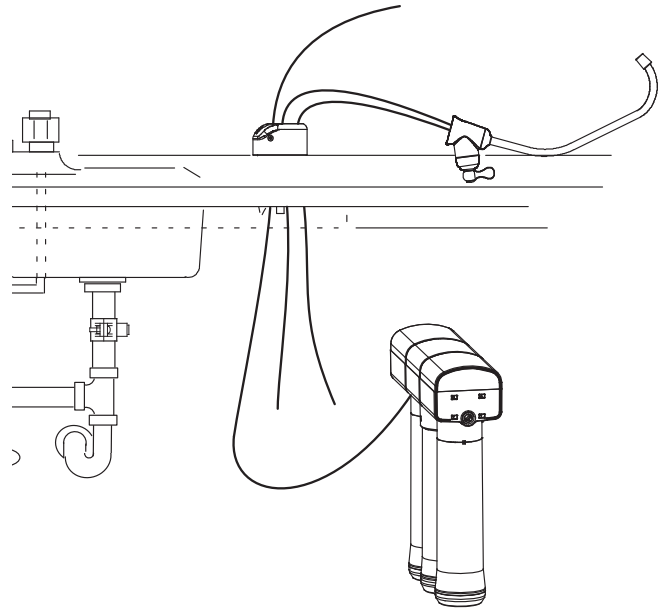

FIG. 15
4. Locate the faucet body. (The black and blue tubes are already connected to the faucet.) Insert these tubes into the sink hole until approximately one foot of tube length and the faucet body are left above the counter surface. Do not kink the tubes in the process. See Fig. 15.